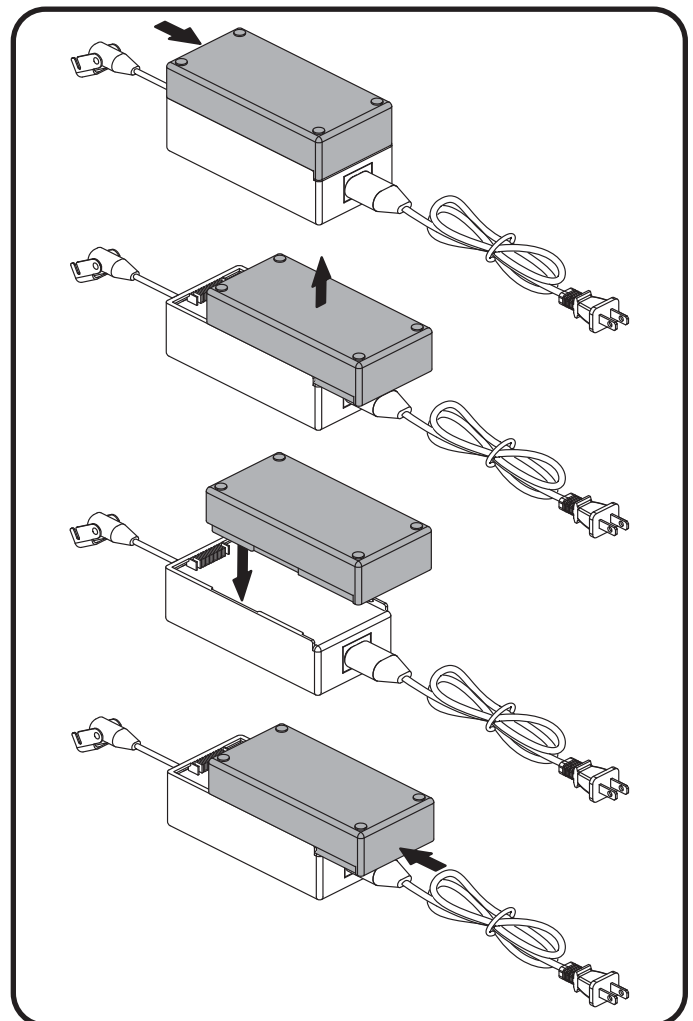

Figure 4.6 Lithium-Ion Battery Replacement
2. Position the external transformer so that the lithium-ion battery is facing upward (fig. 4.6).
5. Place the new lithium-ion battery on top of the external transformer with the securement grooves toward the external transformer (fig. 4.6).